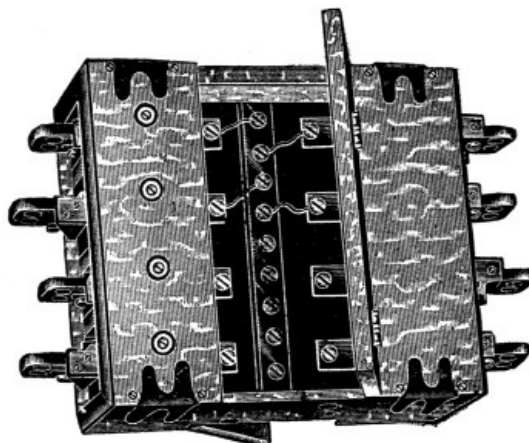

FIGURE 208.
*Plugging Boxes.*—Plugging boxes are used to obviate the necessity of running a large number of wires over the stage to the different stage pockets. They are also a necessity because many theaters are not equipped with a sufficient number of stage pockets to accommodate all of the devices large productions carry. The plugging box should be fireproof; should have self-closing doors so that there may be no liability of open fuses being left among the scenery where they are used. Most of the plugging boxes in use at the present time are arranged for link fuses. A link fuse, however, requires more time to install than a cartridge fuse and the latter would therefore seem much more desirable. A cut of a much-used plugging box is shown in Figure 208.